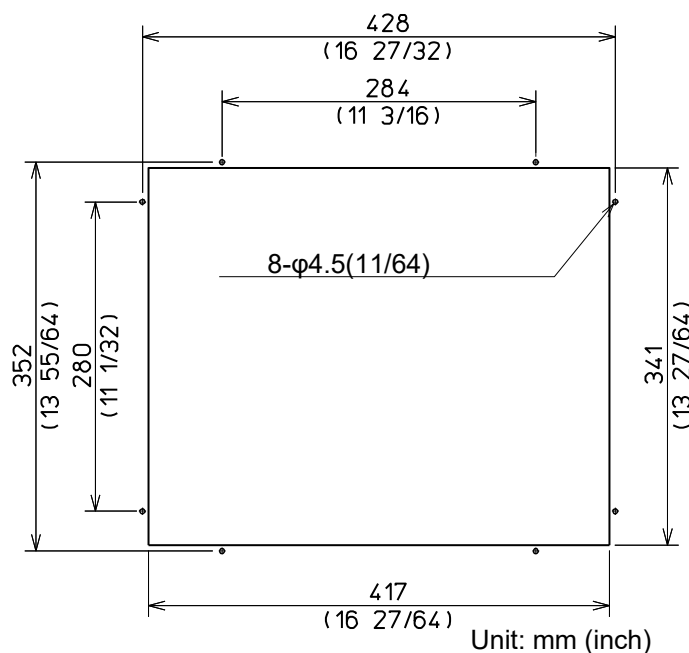

Figure 3.7 The opening and nut-holes for Display unit
- (1) Cut an opening and drill eight 4.5 mm holes as shown in Figure 3.7, for attachment of a Display unit in a panel.
- (2) Unscrew four knob bolts that hold the Display unit to the mounting bracket.
- (3) Remove the Display unit from the mounting bracket and put it on a horizontal and stable place.